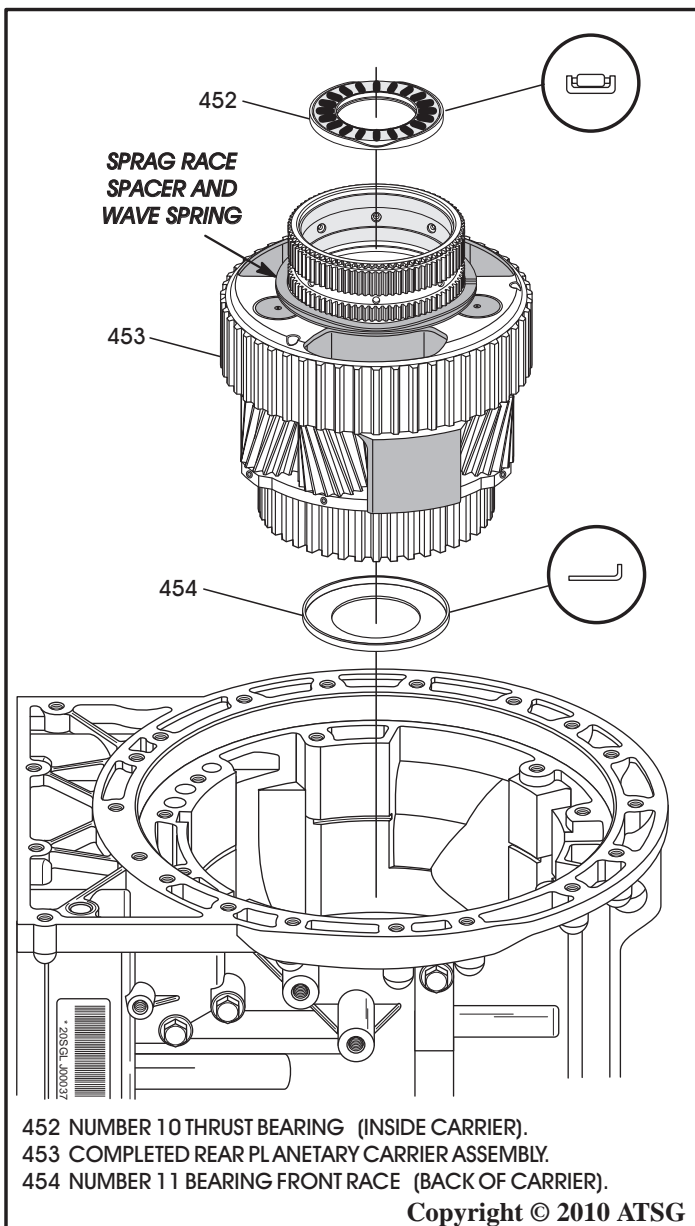

Figure 207
14. Ensure that number 11 thrust bearing front race is still stuck to the back side of planetary carrier, as shown in Figure 207.
15. Ensure that number 10 thrust bearing is installed inside of the rear planetary carrier, as shown in Figure 207.
16. Install completed rear planetary carrier into case, as shown in Figure 207, by rotating to engage the pinion gears into ring gear and rotate back and forth to engage each of the K2 friction plates on rear planetary carrier hub until fully seated.